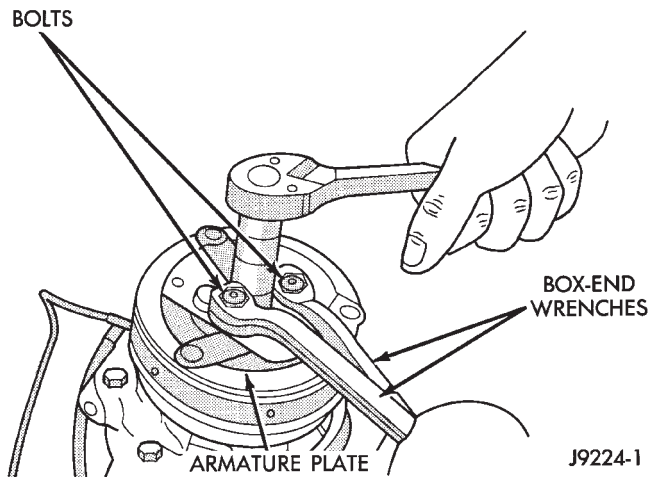

Fig. 20 Compressor Shaft Nut Removal/Installation
(2) Install two (6 mm) bolts into the threaded holes in the armature plate. Hold bolts with two wrenches to prevent shaft from turning (Fig. 20). Remove compressor shaft nut.